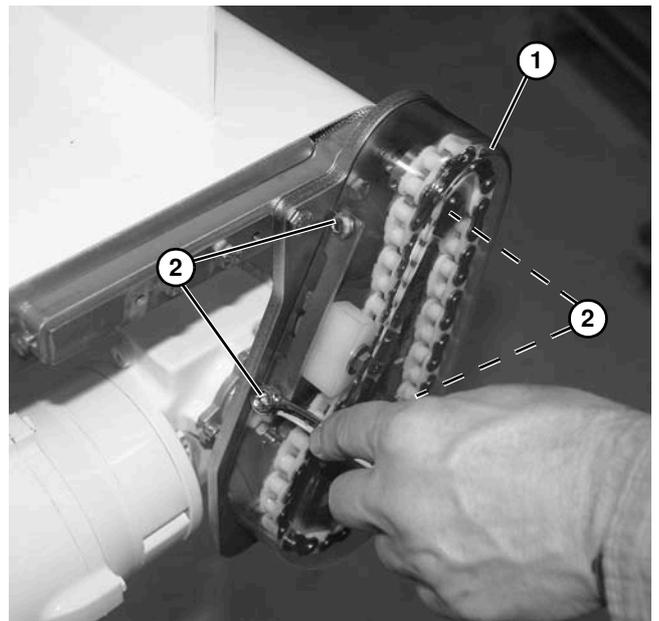

**Figure 66**
11. Slide chain tensioner (**Figure 66, item 1**) to take up chain slack. Tighten chain tensioner screw (**Figure 66, item 2**).